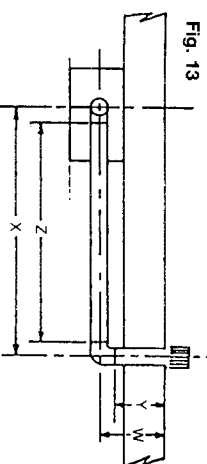

Fig. 13
- 5.5.24** Measure carefully the distance between the centre of the flue bend on the boiler to the centre of the hole through the wall (dimension X fig 13).
- 5.5.31** Ensure that the flue pipe runs parallel to the wall then carefully measure the distance from the outside face of the wall to the centre of the extra bend (dimension W fig 13).